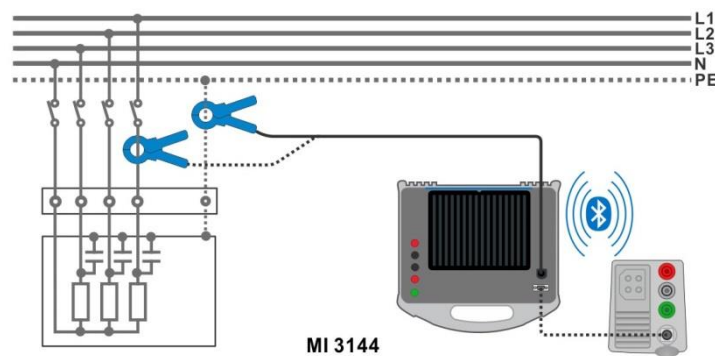

Figure 7.109: Current Clamp Meter measurement
- ▶ Wrap the object under test with the measuring clamp. See *Figure 7.109*. Refer to *MI 3144 Euro Z 800 V Instruction manual* for detailed information.